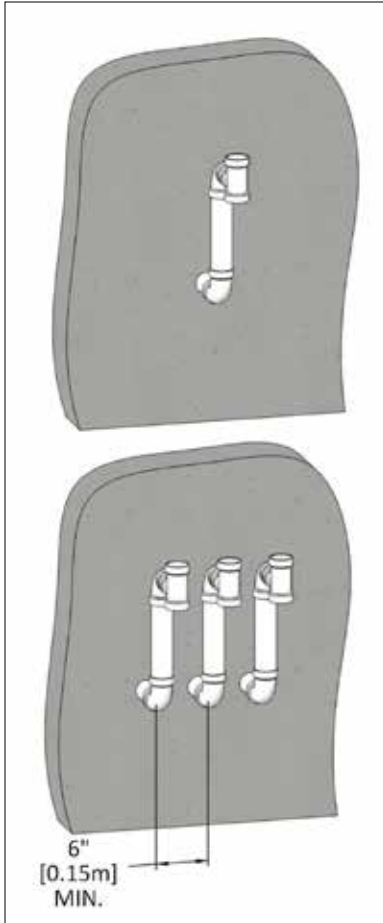

Figure 9: Sidewall vent termination - indoor combustion air applications
- The vent shall be terminated with a tee fitting as illustrated - See Figure 9.